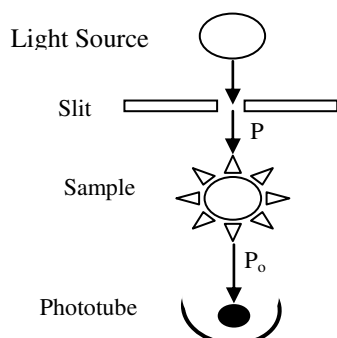

Figure 4.2: Turbidimetry
- Turbidity can also be measured by shining light through a sample and measuring the degree of light penetration as measured by a light detector placed in line to the original light path. This measuring technique is known as Turbidimetry (Figure 4.2). ***(P_o/P) will be higher in this case for samples that are less turbid.***